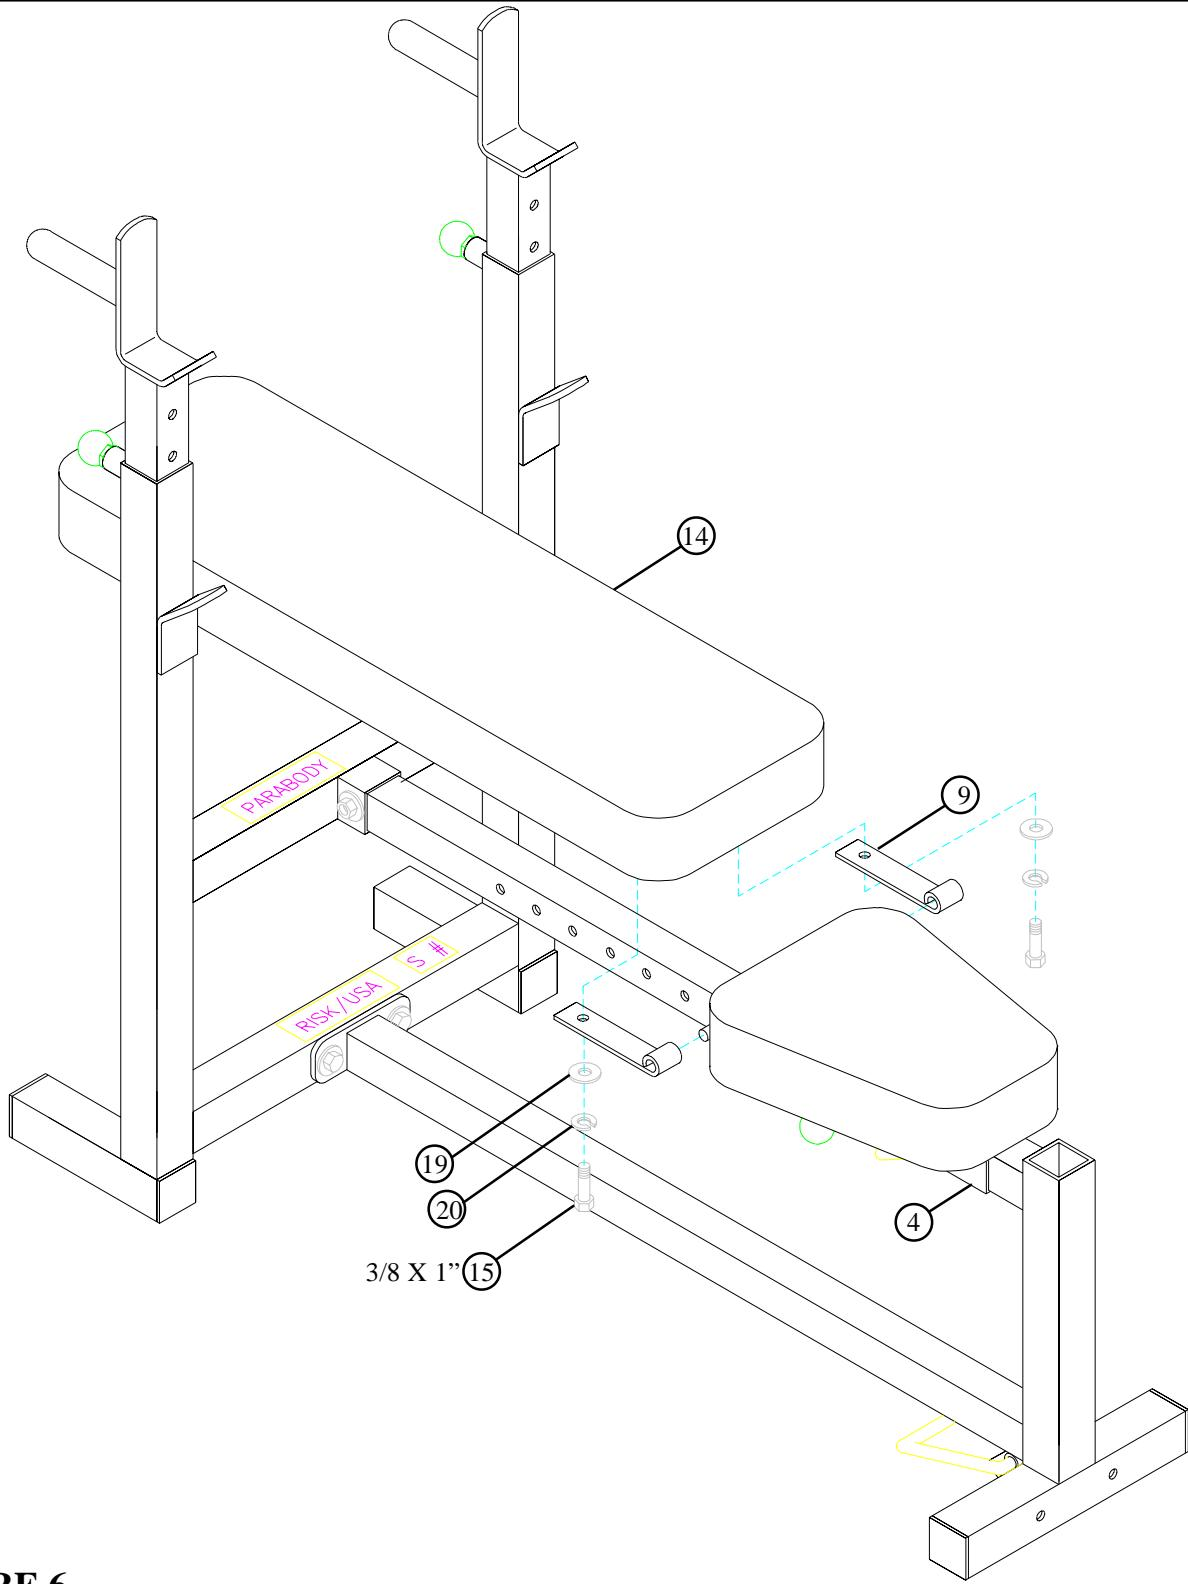

FIGURE 6
- To assemble the BACK PAD (14) to the WOLFF SLEEVE (4), slide the two remaining HINGE TABS (9) over the PIN of the WOLFF SLEEVE (ONE ON EACH SIDE) as shown in FIGURE 6, and SECURELY assemble each HINGE TAB (9) to the BACK PAD (14) using two 3/8 X 1" BOLTS (15), two 3/8" LOCK WASHERS (20), and two 3/8" WASHERS (19). (**MAKE SURE BOTH HINGE TABS ARE ALL THE WAY ON THE PIN**)